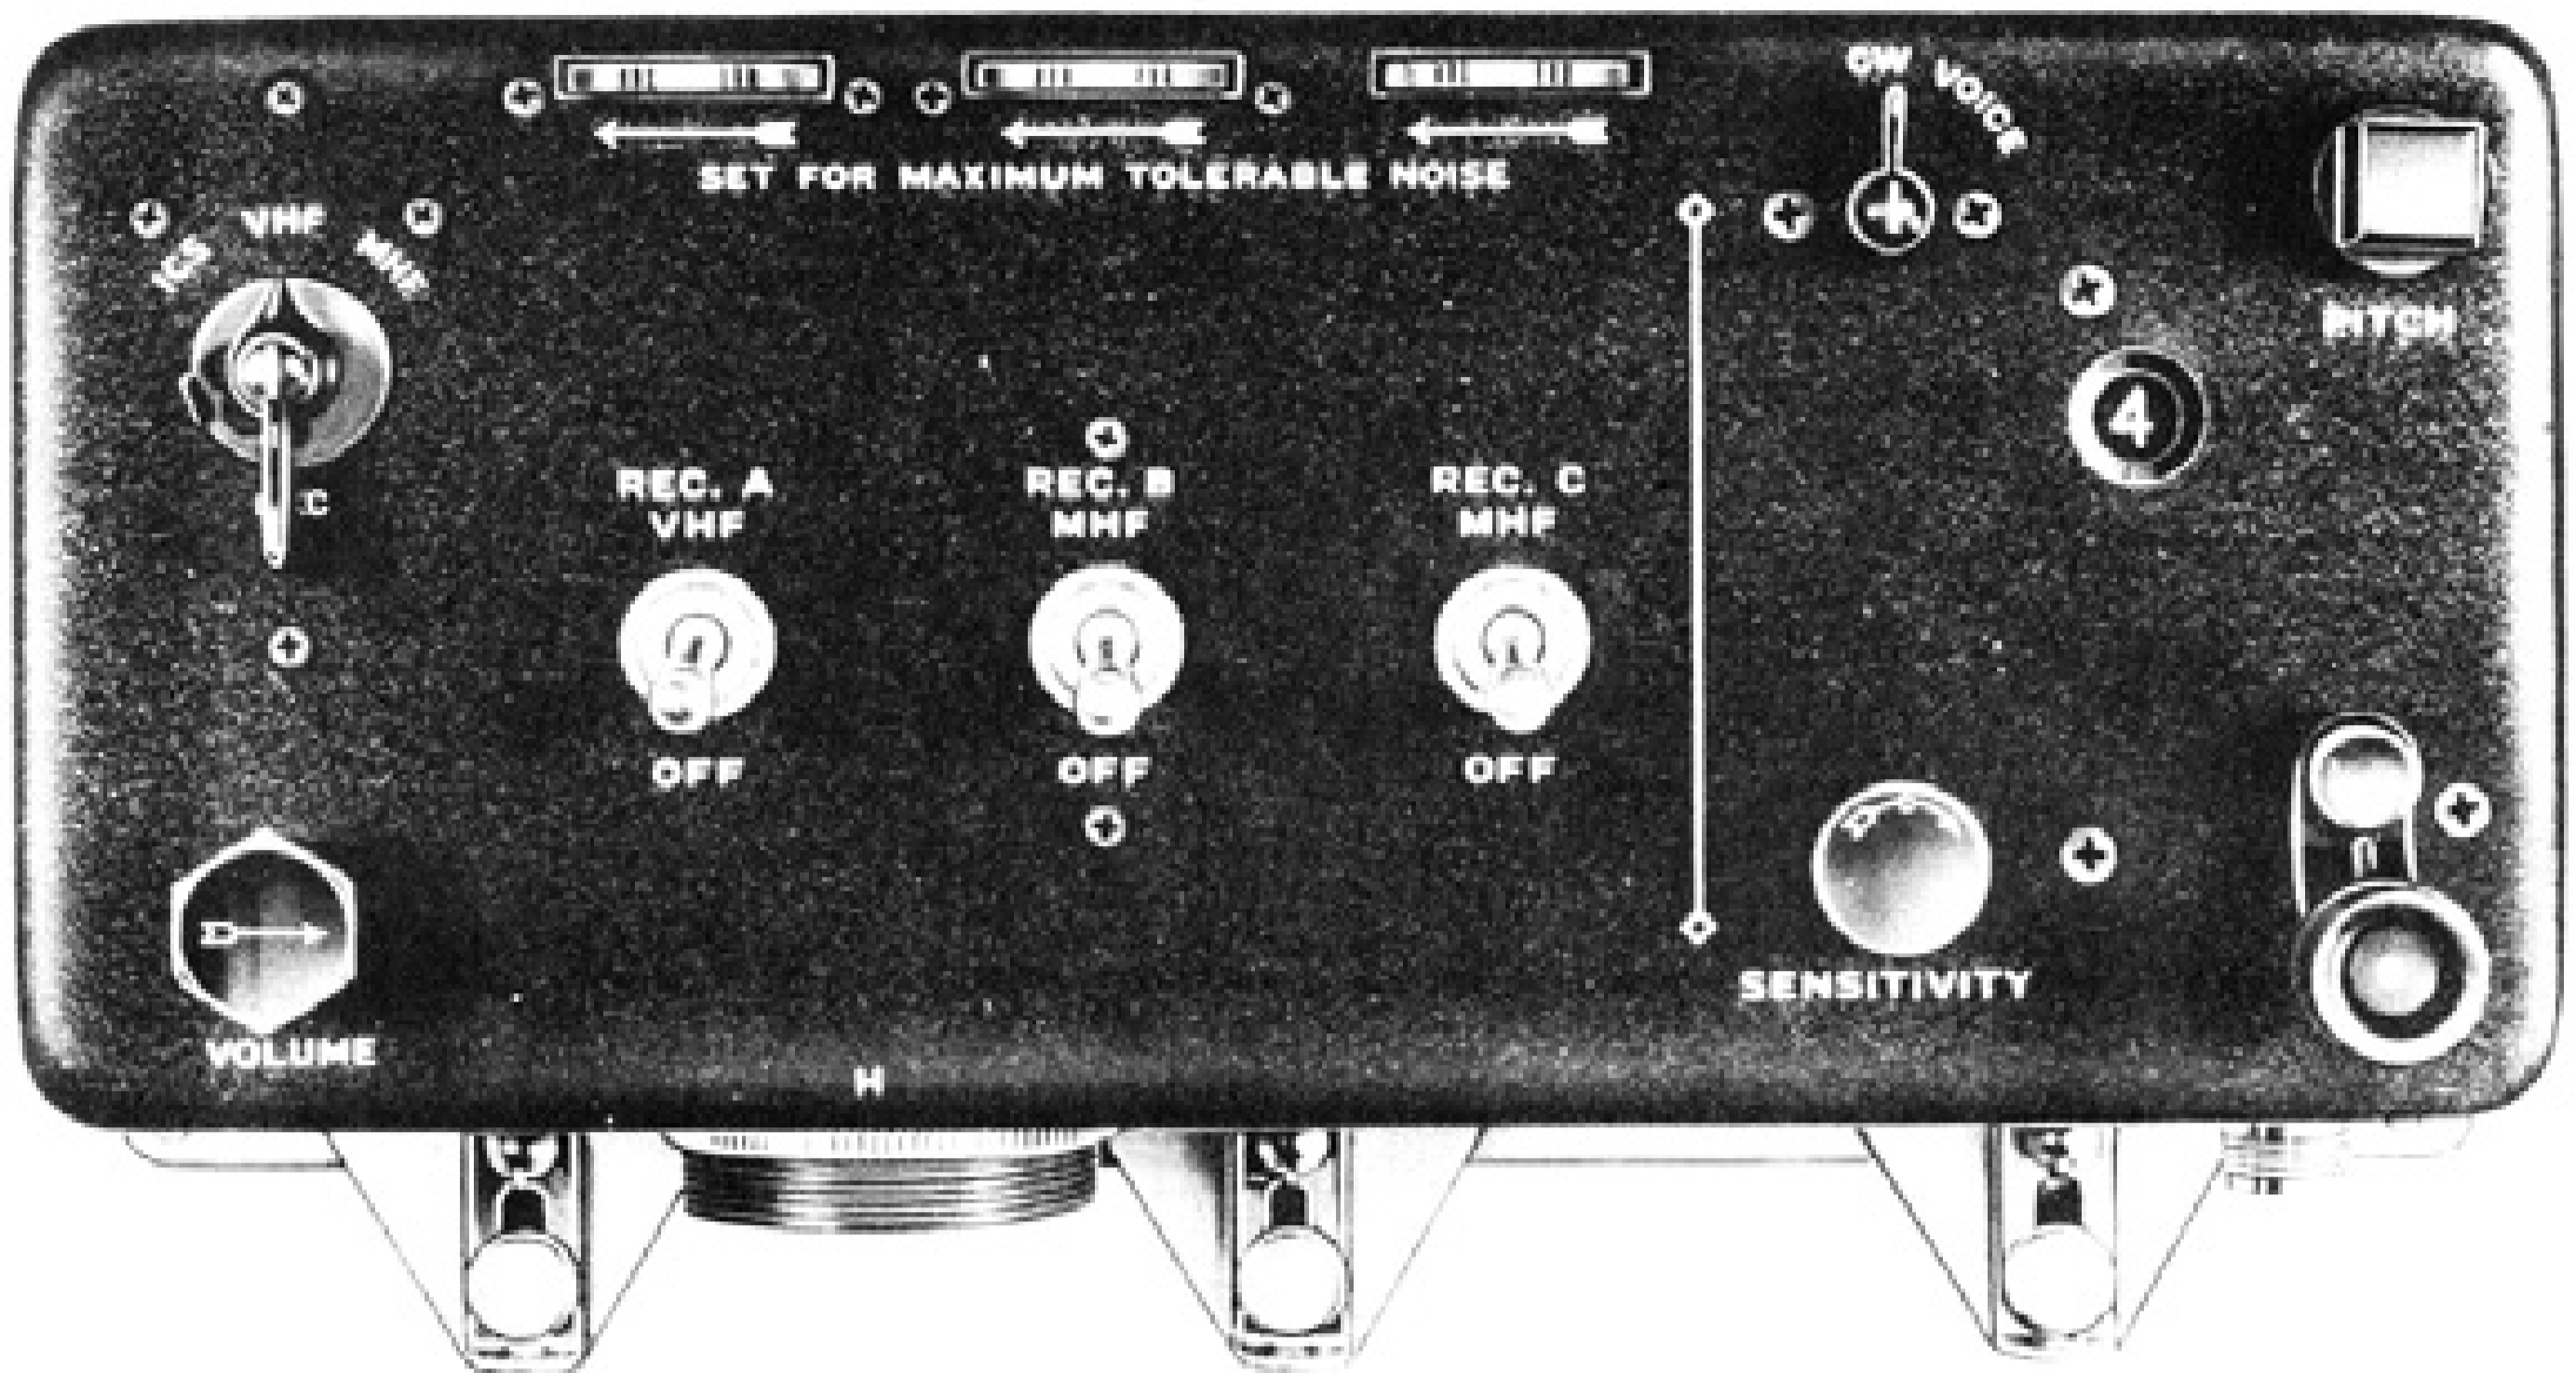

Figure 68 — Pilot's AN/ARC-5 Control Unit
(3) AN/ARR-2 RECEIVER.—This unit is located in the bombardier's compartment under the turret. It receives CW (continuous wave) signals on six bands. A tuning control crank, located on the pilot's AN/ARC-5 control unit, (see Figure 68) is turned to change bands. The ZB antenna rod is used with this receiver.
(4) AN/ARC-5 UNITS.
(*b*) AN/ARC-5 CONTROL UNIT, PILOT'S.—This unit (see Figure 68) controls the AN/ARR-2 Receiver, the AN/ARC-1 VHF Transmitter-Receiver, the AN/ARC-5 Receiver, and the Interphone system. It is located on the starboard side of the pilot's cockpit, see Figure 63.